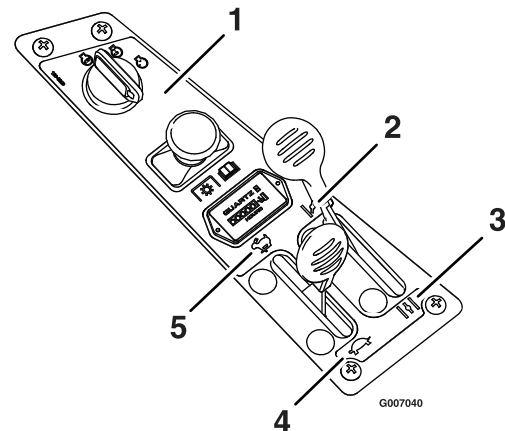

Figure 10
3. Move the throttle lever to midway and the choke lever forward before starting a cold engine (Figure 10).